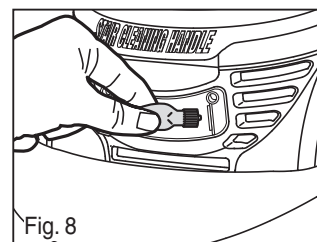

Fig. 8
- 3) Push in new bulb, replace lens cover and replace screw (Fig. 8).